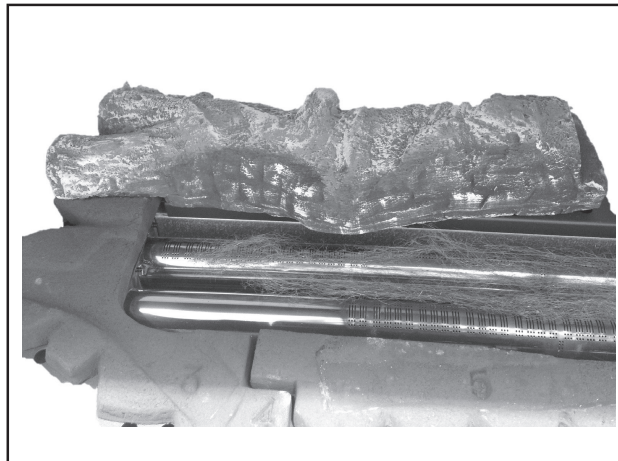

Fig. 4
4. Place the LHS rear Matrix ceramic log '1' in position as shown in fig.4. This ceramic log should locate into the recess cut in the LHS ceramic base.